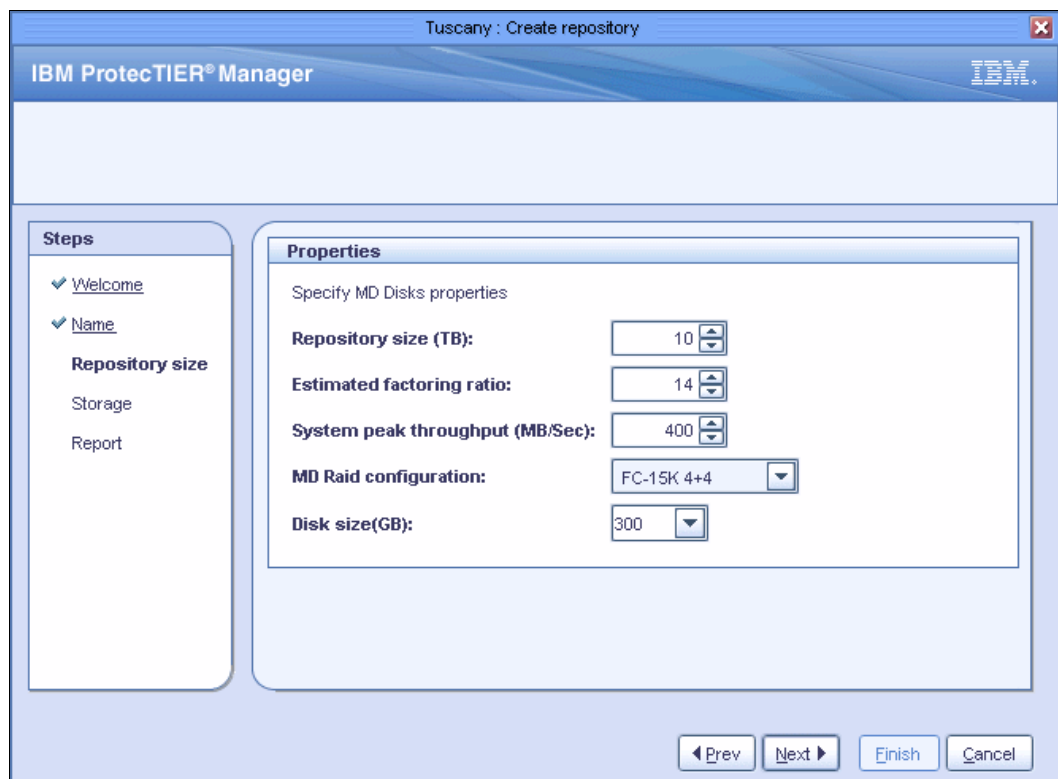
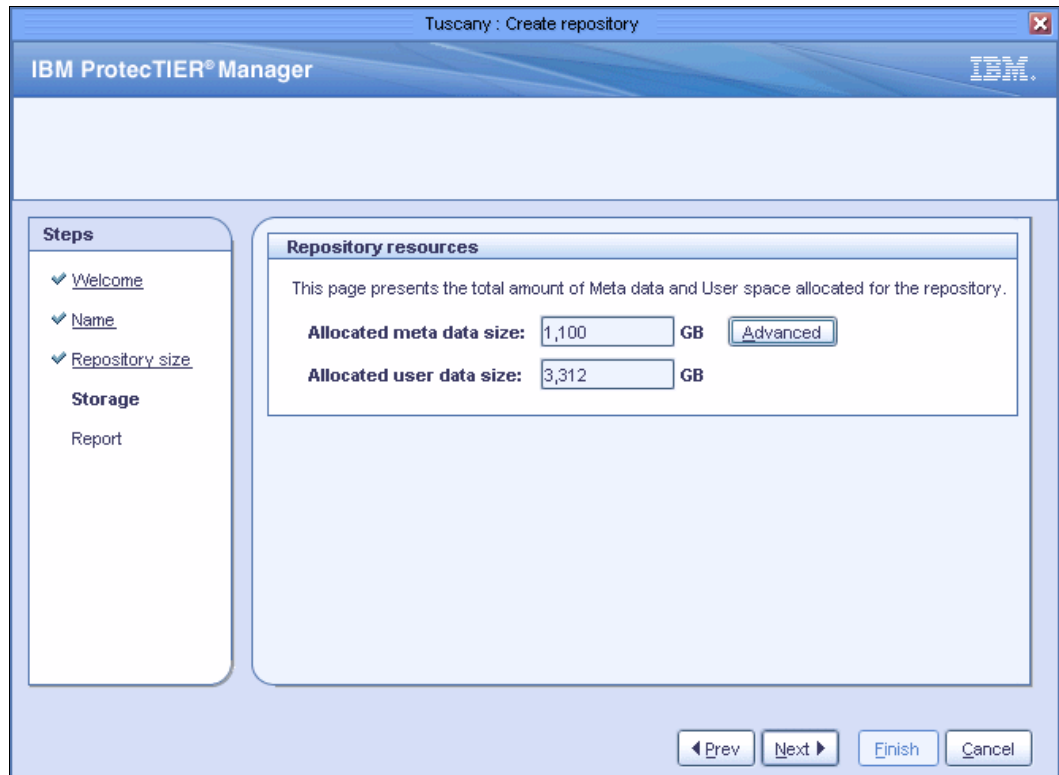

Figure 5-52 Repository size properties window
Figure 5-53 Metadata and user data allocation
4. In the Repository size field (Figure 5-52), enter the repository size in terabytes that you determined using the Create repository planning wizard.
The Metadata window opens (Figure 5-53). The Allocated metadata size field shows the amount of disk space allocated for metadata, and the Allocated user data size field shows the amount of disk space allocated for user data, based on the estimated factoring ratio and the set of existing file systems (Figure 5-52 on page 222).